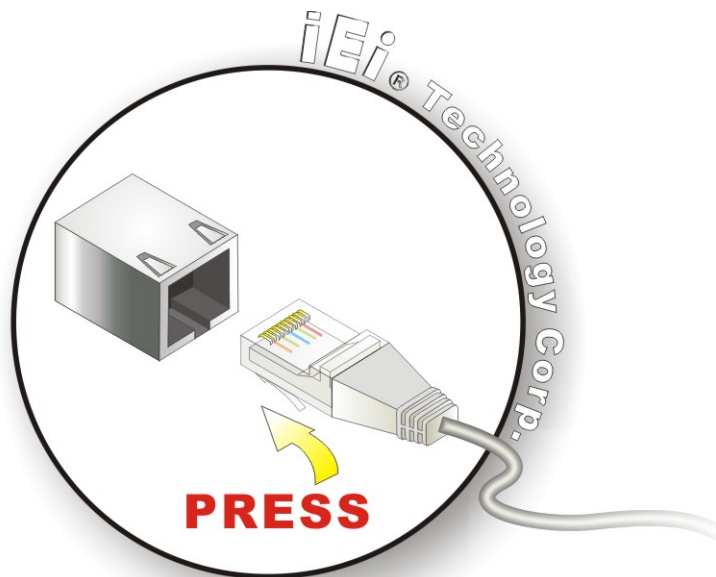

Figure 4-11: LAN Connection
Step 8: Align the connectors. Align the RJ-45 connector on the LAN cable with one of the RJ-45 connectors on the NANO-945GSE3. See Figure 4-11.